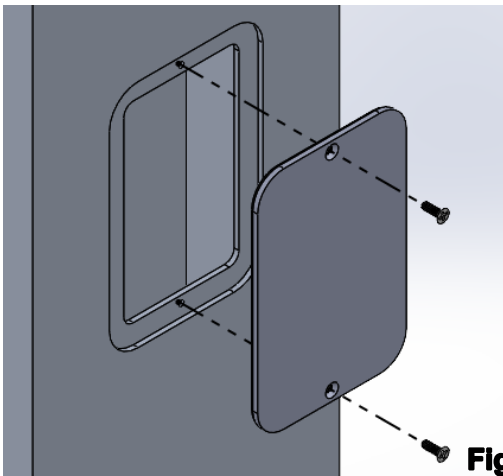

Fig. 5
- Remove the two flat head screws #6-32 x 1/2" and the hand hole cover located on mid of pole. **Fig. 5**